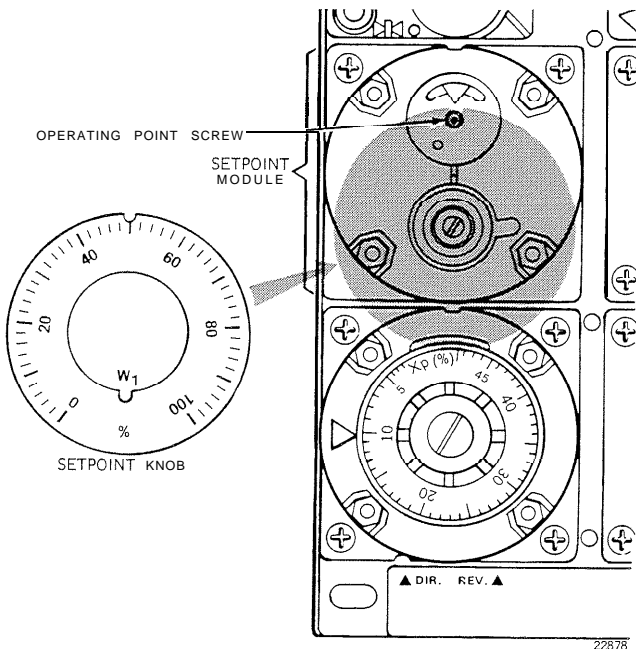

Fig. 6. Operating Point Screw Location.
4. If the BLP is 8 psi (55 kPa), go to Step 5. If not, remove the setpoint knob (Fig. 6) and turn the operating point screw with a 5/64-inch Allen wrench until this value is matched,